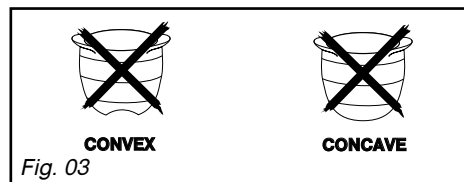

Fig. 03
– Do not use concave or convex cookware without the adequate supports (Fig. 03).